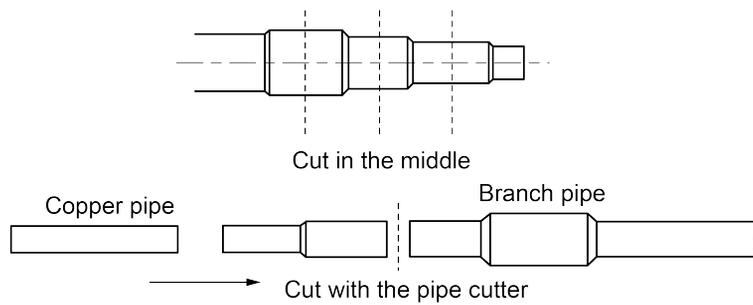

Fig.4.4.7
- 3) Manifold has several pipe sections with different pipe size, which facilitates to match with various copper pipe. Use pipe cutter to cut in the middle of the pipe section with different pipe size. See the Fig.4.4.7 as below.